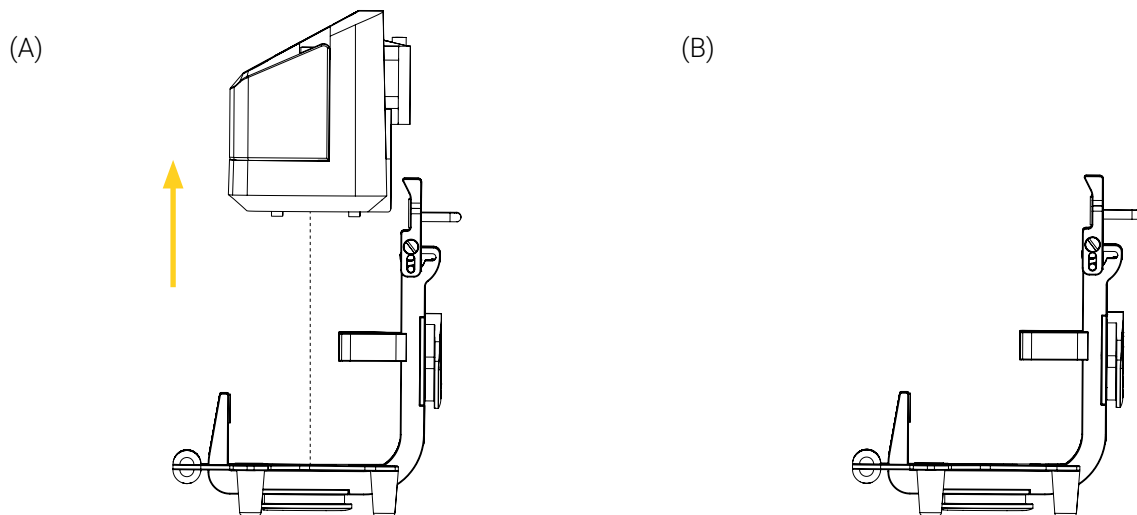

Figure 9: Removing the medical device from the mounting system
2. Lift and remove the medical device vertically from the mounting system (Figure 9), paying close attention not to wedge the power cords or tubing, then set it aside on a clean and flat surface, or store it following your internal protocols.